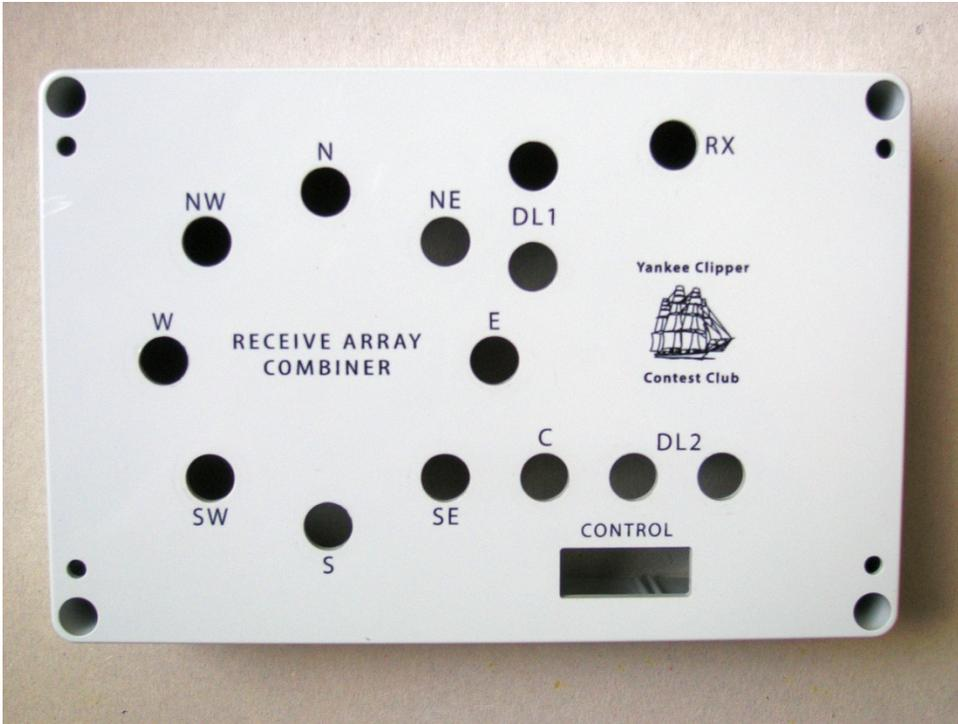

Figure 18. Bottom view of pre-drilled combiner enclosure
27. A predrilled combiner enclosure is provided in the kit for easy installation of the PCB. See Figure 18.